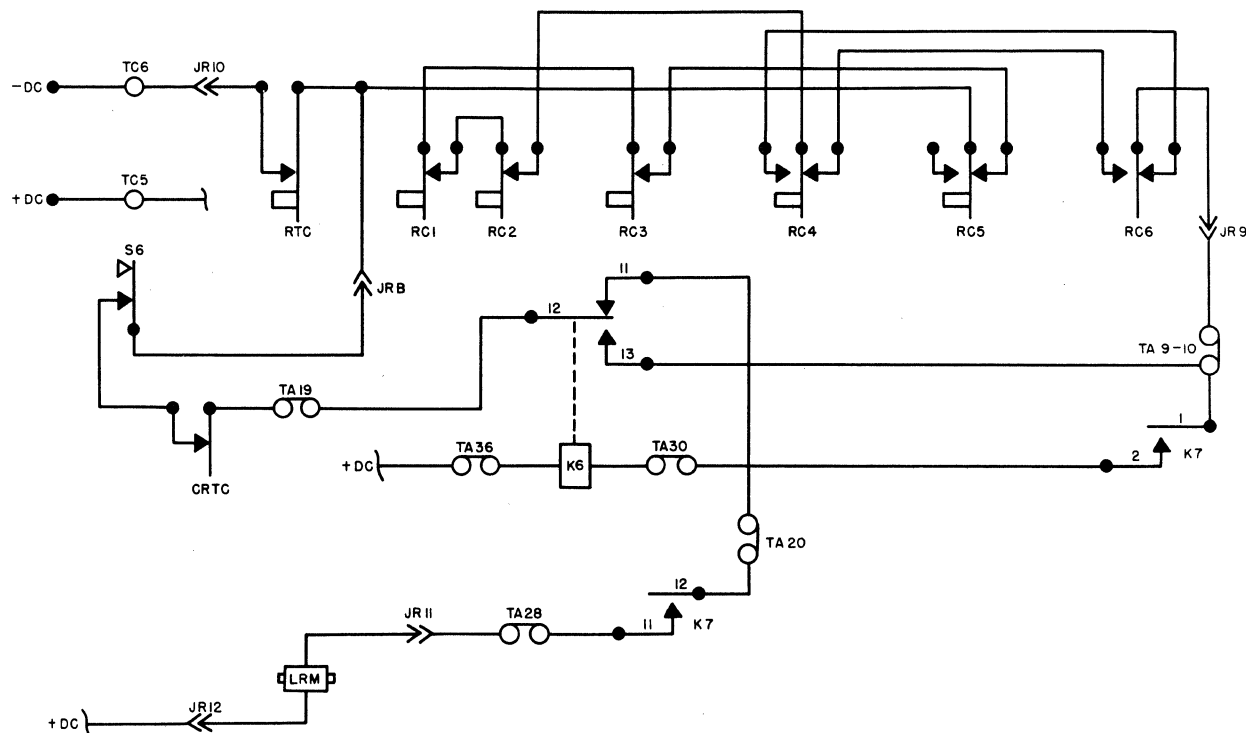

Figure 3-8 Delay Control Circuit
**Delay Control Circuit** (Figure 3-8) An automatic delay control circuit is used in the Model FG machine in order to delay the operation of the tape reader until the carriage return or tab function has been completed in the writing machine. The code for carriage return is 4, while the tab code is 6. Thus, when either RC4 or RC6 contacts operate, a circuit is completed to the delay control relay (K6), breaking the circuit to the reader magnet and stopping reader operation.